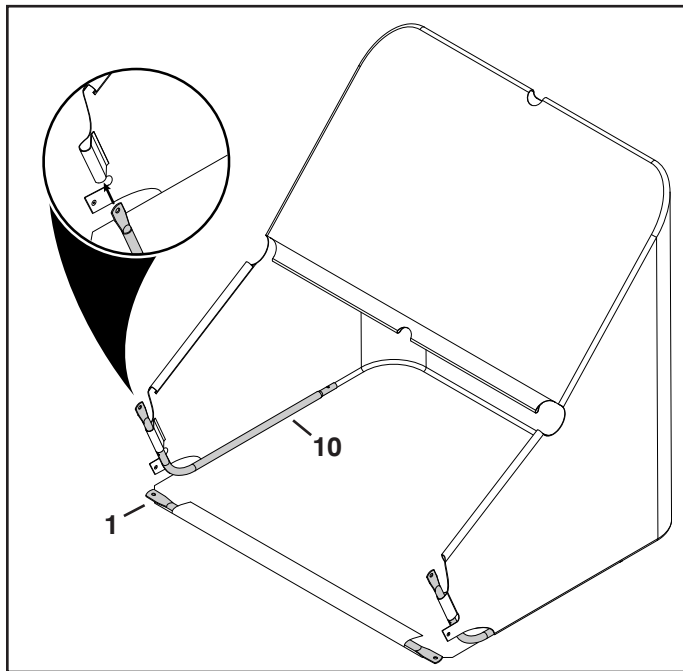

FIGURE 7
10. Slide the bag frame tube (1) through the front flap in the bottom of the bag. See figure 7.
11. Slide the two lower hopper tubes (10) into the flaps at the front of the hopper bag as shown in figure 7.